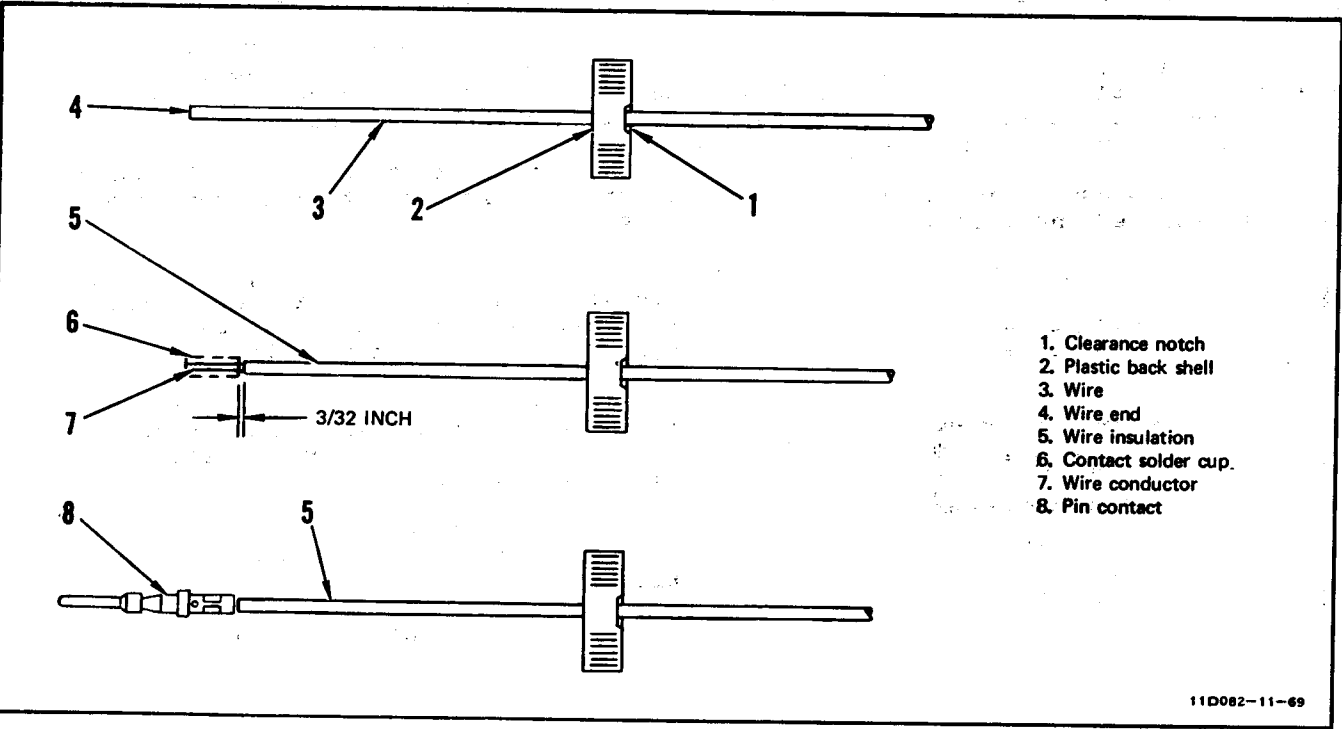

Figure 11-25. MS25183 Connectors - Contact Repair
**11-69. Contact Repair.** (See figure 11-25.)
- a. Cut a clearance notch (1) in tapered end of plastic back shell (2) as shown. The notch shall be approximately 7/32 inch wide and 7/64 inch deep.
- b. Slide plastic back shell (2) over wire (3), tapered end first.
- c. Cut wire end (4) square and even.
- d. Strip wire insulation (5) to length of contact solder cup (6) plus 3/32 inch.